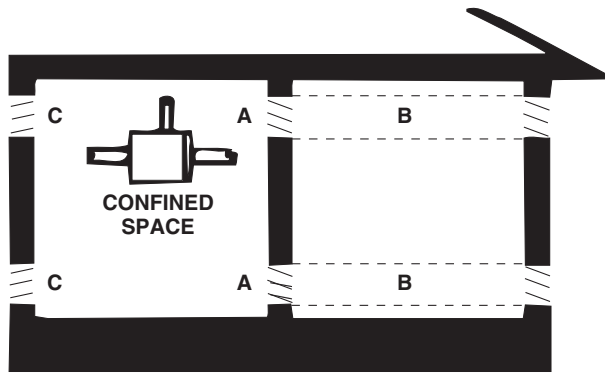

Figure 6. Confined Space Combustion Air Openings (Refer to Table 5)
- Provide openings (depending on the combustion air source) near the floor and ceiling for ventilation and air for combustion, as shown in Figure 6 and as listed in Table 5.
*See Figure 6.